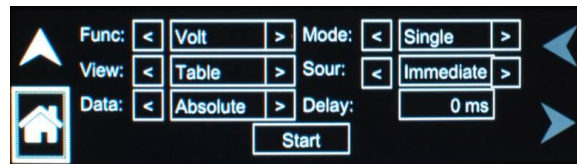

Figure 6-7. HARMONICS Menu, Triggering
Trigger mode could be selected from the front panel using the MODE field in the HARMONICS menu of the MEASUREMENTS screen; refer to Figure 6-7.
Trigger sources could be selected from the front panel using the SOUR(CE) field in the HARMONICS menu of the MEASUREMENTS screen; refer to Figure 6-7.